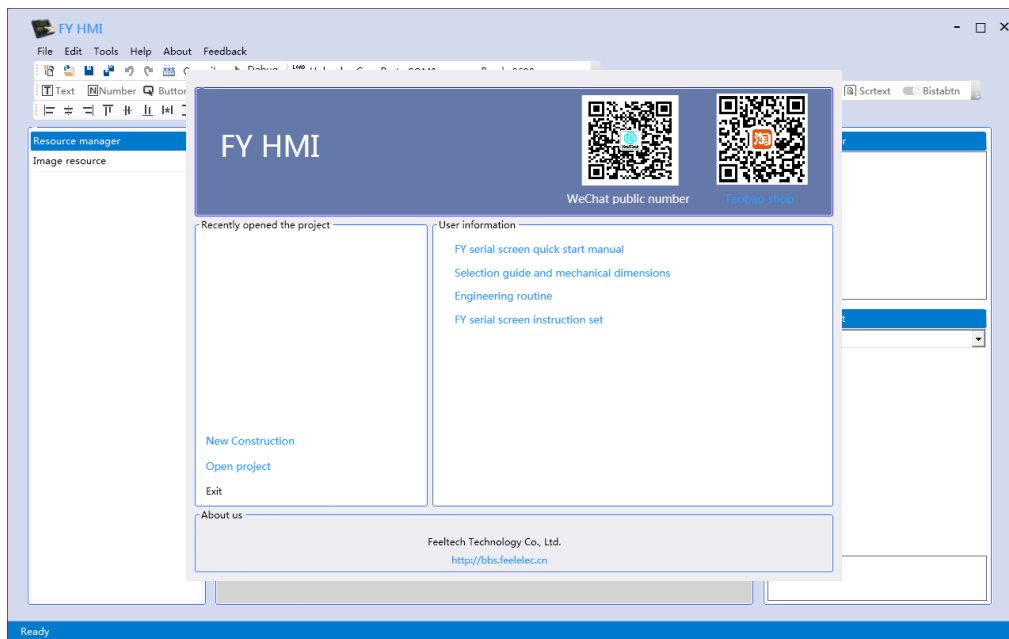

Figure 1-2
3.After the installation is complete, automatically add software shortcuts on the desktop, click to display the software interface, as shown in Figure 1-2: